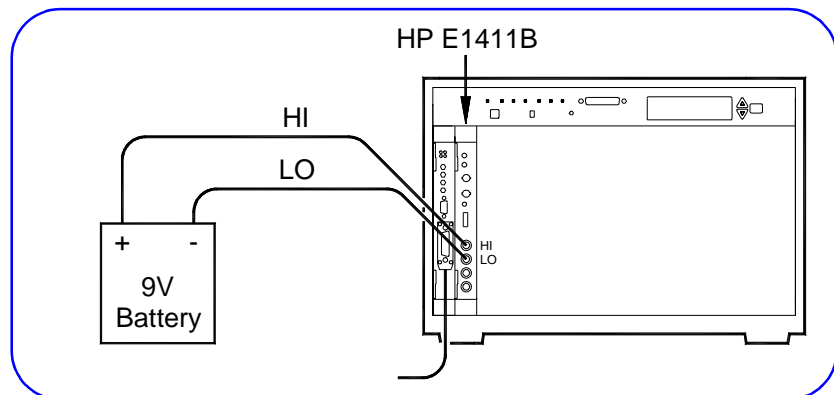

Figure 31. Example: HP E1411B Connections
- 1 Turn mainframe power OFF and connect the battery to the HI and LO terminals of the HP E1411B as shown in Figure 31. Then, turn mainframe power ON.